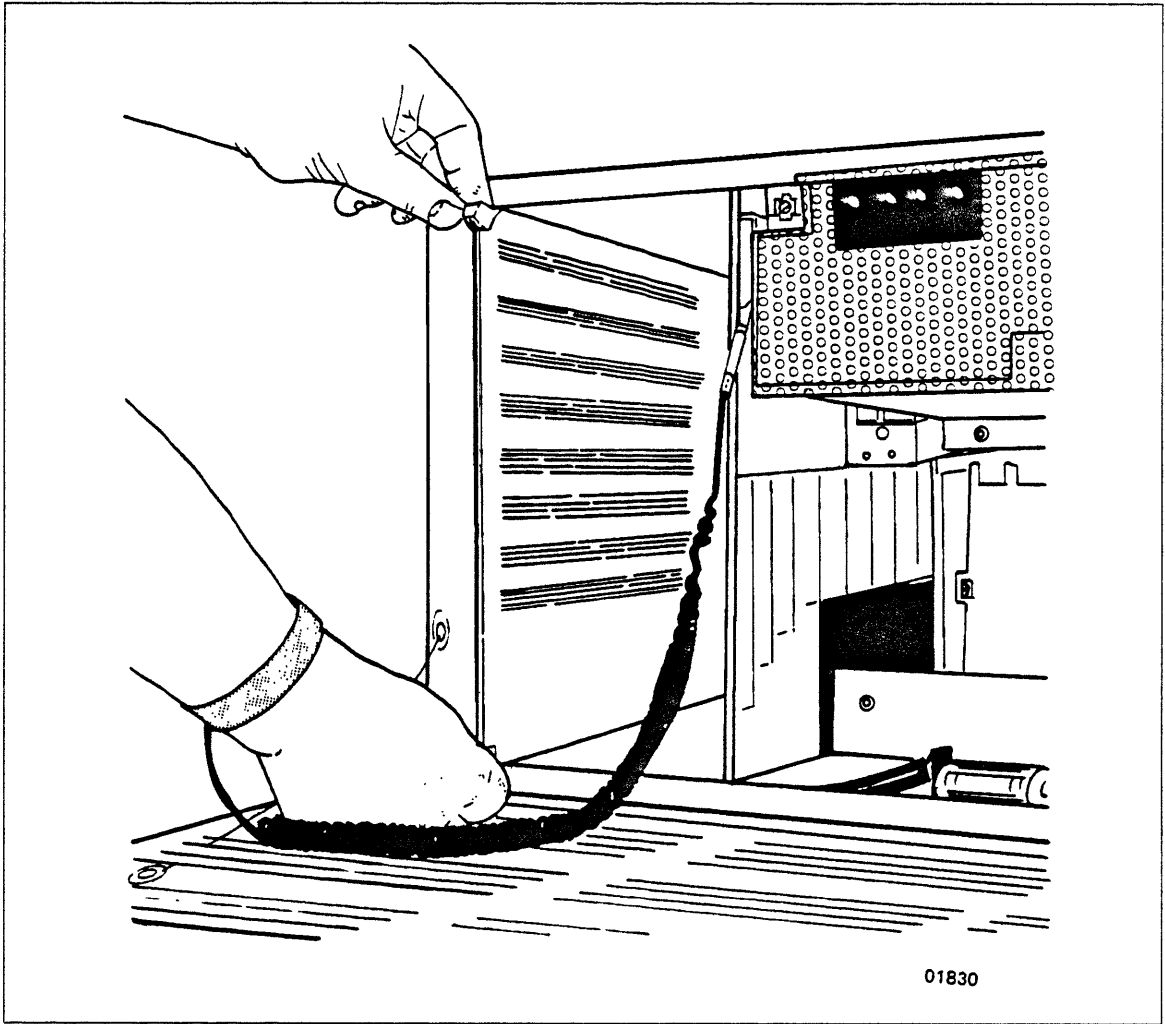

Figure 3-1. Using the Static Control Wrist Strap
- Ground yourself to the DI when the electronics are or will be exposed. Connect yourself to ground by attaching your wrist strap to the ground lug on the front of the DI cabinet (figure 3-1), or to another suitable ground point on the DI. As a general rule, remember that you, the DI cabinet, and the circuit boards must all be at ground potential to avoid damaging static discharges. See chapter 10 for wrist strap part numbers.